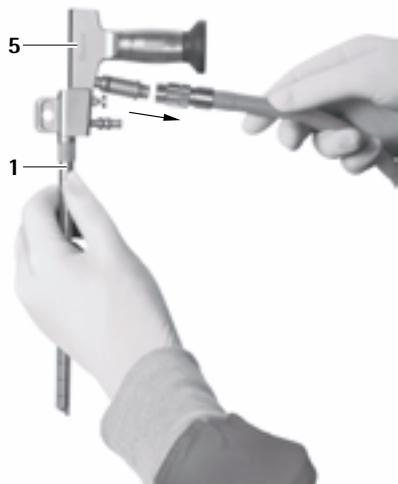

Fig. 7
- Disconnect camera and light cable from the endoscope 5, see Fig. 6 and see Fig. 7.